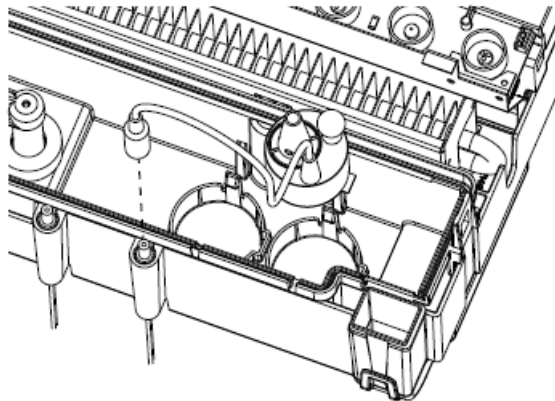
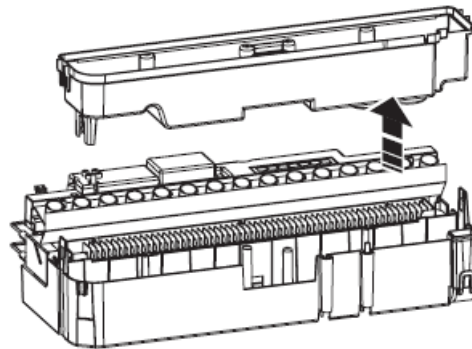
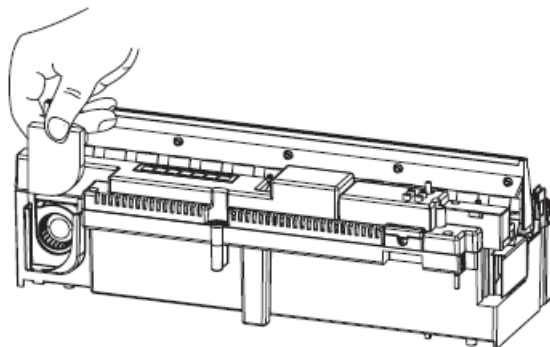

Fig 15
Fig 16
Fig 17
We recommend cleaning the following components once every week, particularly in hard water areas: Tank cap and seal (Fig 8), Nozzle (Fig 16), Transducer (Fig 17), Sump (Fig 18) & Air filter (Fig 19).
4. There are two orange clips holding down the nozzle on the sump; one on the left and one on the right-hand side of the nozzle. On the left side, press in the clip with one hand and with the other lift the nozzle out of the clip. Repeat this for the right side (Fig 15). The nozzle can now be lifted up and placed aside (Fig 16).
5. Gently lift up the sump (Fig 17), taking care to keep it level so as not to spill any water. Sit the sump in the sink.
6. Carefully empty the sump into the sink taking note that the transducer (Fig 17) is held in place by a retaining clip.
The transducer is a consumable item and may need to be replaced over time, depending on its usage. Replacement transducers can be purchased from your dealer. The transducer is fixed in the sump with a plastic clip (Fig 17).